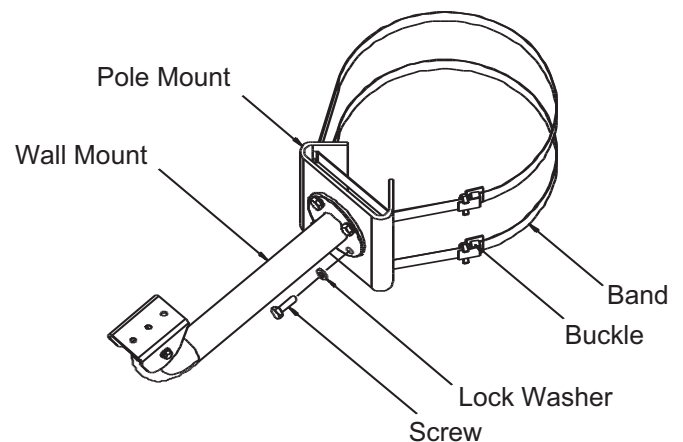

Figure 2: Securing Model MT9213
3. For model MT9213 with a MT9212, MT9215 or MT9215S secure the wall mount to the pole mount using the four (4) 8 mm screws and lock washers provided. Use the four larger holes that are in a square pattern around the center. See **Figure 2**.
4. For Model MT9213 with an IND5AMT or MLAW, secure the wall mount to the pole mount using the four (4) No. 6 screws provided in the wall mount hardware kit. Use the four smaller holes that are in a rectangular pattern around the center.